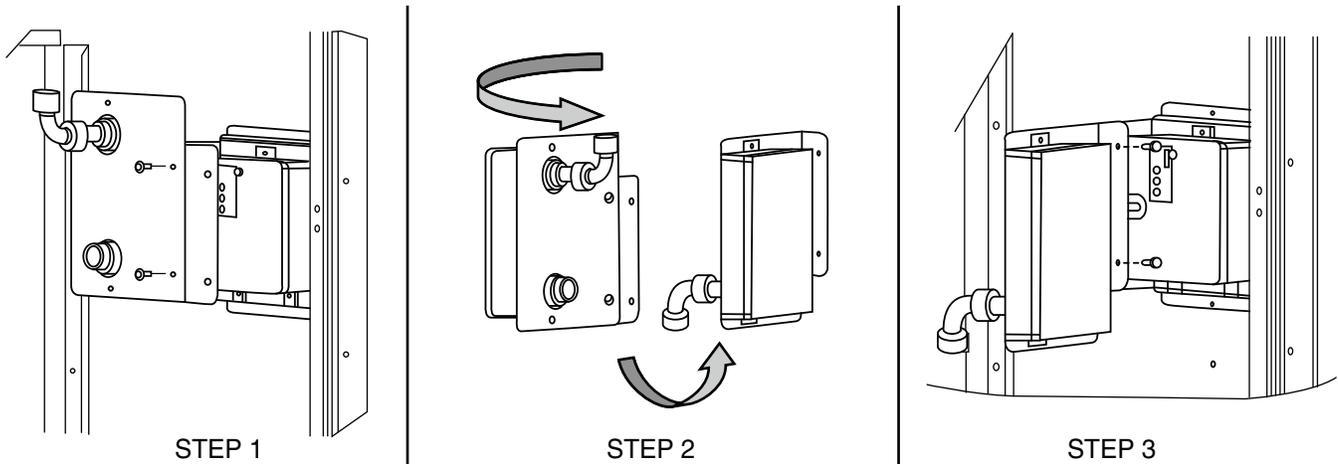

Fig. 94 — Completing Installation of Return Air Smoke Sensor
1. Unscrew the two screws holding the Return Air Smoke Detector assembly. See Fig. 94, Step 1. Save the screws.
2. Turn the assembly 90 degrees and then rotate end to end. Make sure that the elbow fitting is pointing down. See Fig. 94, Step 2.
3. Screw the sensor and detector plate into its operating position using screws from Step 1. See Fig. 94, Step 3.